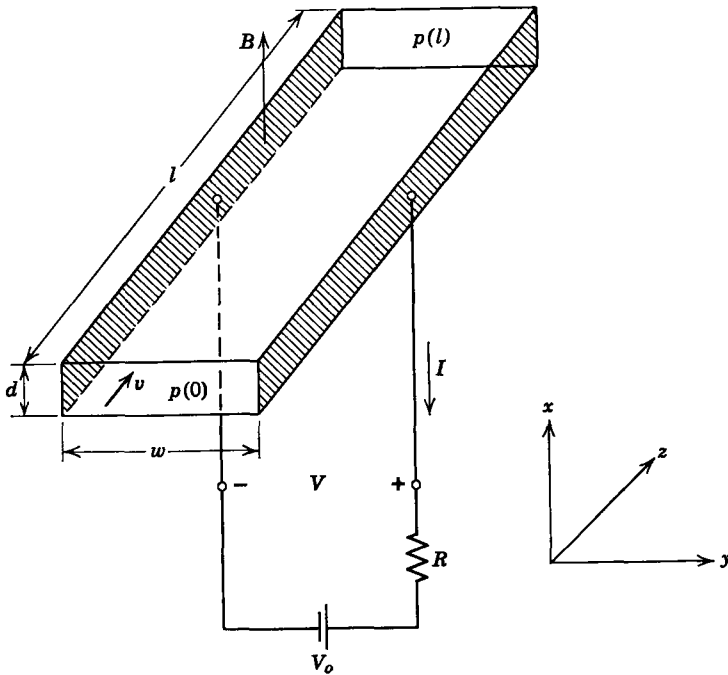

Fig. 12P.16
12.16. The MHD machine for which dimensions and parameters are defined in Fig. 12P.16 can be assumed to operate with incompressible, uniform flow velocity v in the z -direction. The fluid has constant, scalar conductivity. There is a uniform applied flux density B in the